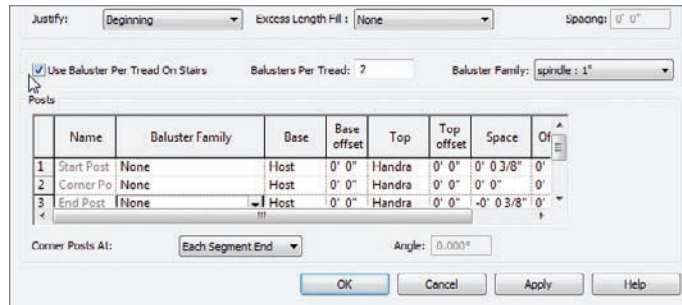

FIGURE 10.61 Specifying two balusters per tread and no actual posts
14. Just below the Main Pattern area is the Use Baluster Per Tread On Stairs option. Click it, as shown in Figure 10.61.
15. To the right, you will see a field that says Balusters Per Tread. Specify two balusters per tread (see Figure 10.61).
16. In the bottommost field is the Posts category. Change each of the three Posts to None. Our spindles are all we need (see Figure 10.61).